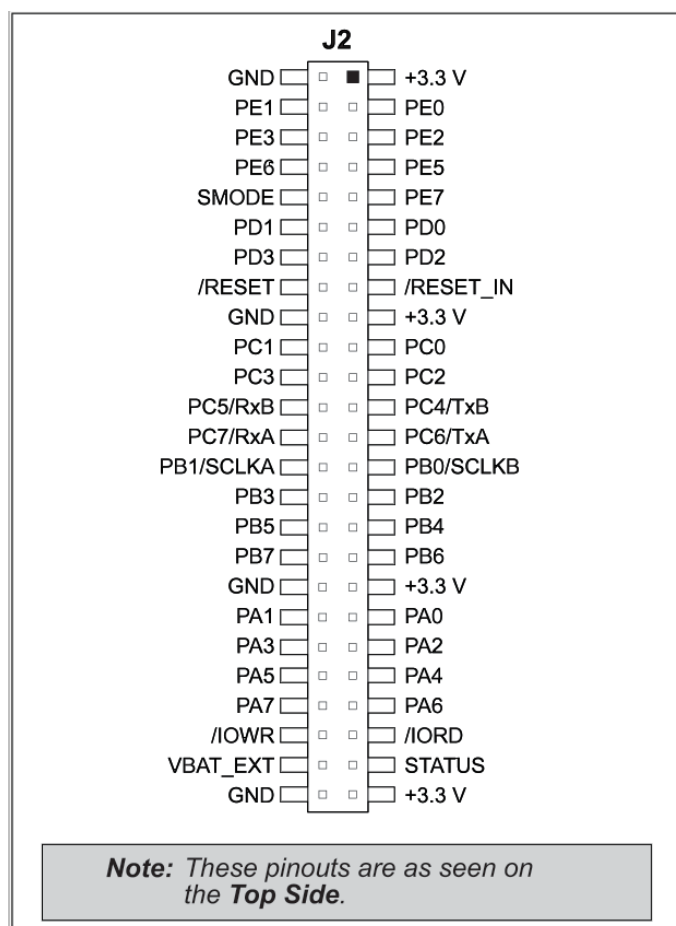

Figure C-4. MiniCore Boards Pinout
- **Module Extension Headers**—The complete pin set of the MiniCore module is duplicated below header J2. Developers can solder wires directly into the appropriate holes, or, for more flexible development, a 2 × 25 header strip with a 0.1" pitch can be soldered into place. See Figure C-4 for the header pinouts.
The Prototyping Board provides the user with MiniCore connection points brought out conveniently to labeled points below header J2. The pinouts for header socket J2 are shown in Figure C-4.